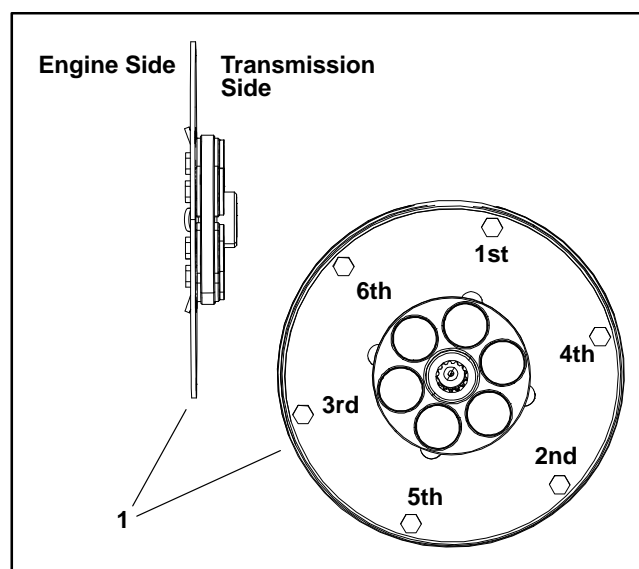

Figure 15
2. If removed, install motor mount plates (item 12) to engine with cap screws and lock washers. Torque cap screws from **34 to 42 ft-lb (47 to 56 N-m)**.
3. If flywheel coupling was removed from engine, apply Loctite #271 (or equivalent) to threads of six (6) cap screws and secure coupling to engine flywheel. Torque cap screws **19 ft-lb (26 N-m)** twice in sequence (Fig. 15).
5. Position two (2) dowel pins (item 27) to engine end plate.